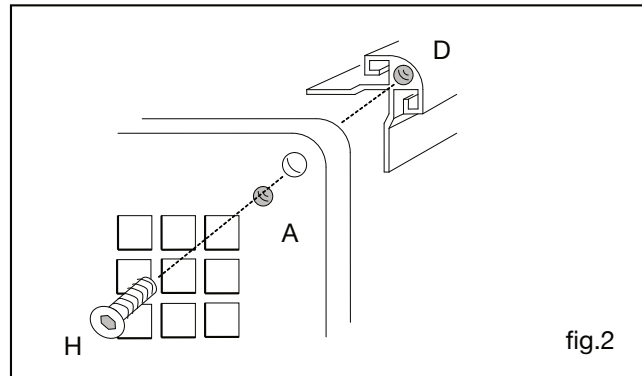

fig.2
2. Fix the four support arms (D) to the back panel (A) using four of the allen-head bolts (H). Ensure that the support arms fitted with the mounting feet (Step.1) are fitted to the bottom of the back panel. (fig.2)
3. Slide the two side panels (B) and the top panel (C) into the support arms (D).
4. Fit the front panel (A) to the support arms (D) using four Allen-head bolts (H). The guard is now ready to be secured to the floor via the holes in the mounting feet. (fig.2)
1. Assemble the BASE PACK as instructed previously, except do not fit one of the bottom support arms (D) in step 2. Also do not fit one of the side panels (B) in step 3.
2. Fix the two support arms (D) to the top corners of the back panel (A) and fix the bottom support arm (D) removed from the BASE PACK to one bottom corner of the back panel. (fig.2)
3. Fit the front panel (A) to the support arms (D) using the Allen-head bolts (H). (fig.2)